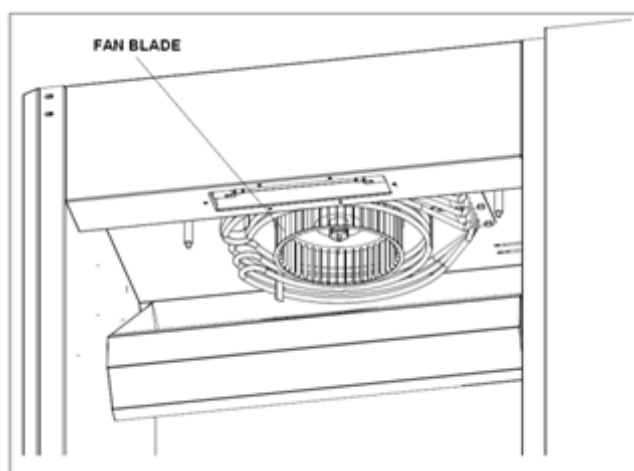

Figure 17
- Clean the fan blade with a cloth and grill cleaning agent (see Figure 17).